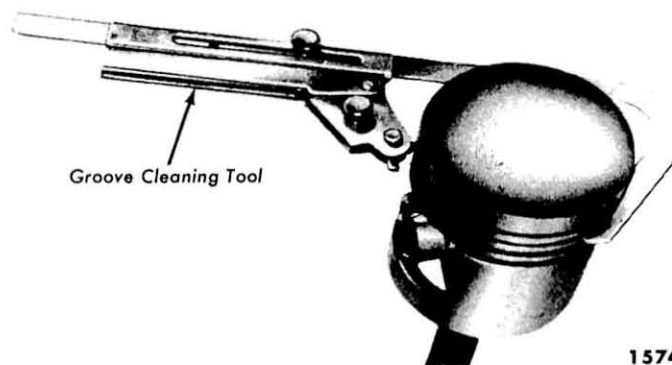

Fig. 24—Cleaning Piston Ring Grooves
(1) **CLEANING AND INSPECTION.** Remove all carbon from the piston with a scraper or carbon brush. Clean the piston ring grooves with a ring groove cleaner (fig. 24). Clean the carbon from the oil return holes in the oil ring grooves by running a drill through the holes. Be sure the drill is the same size as the hole.